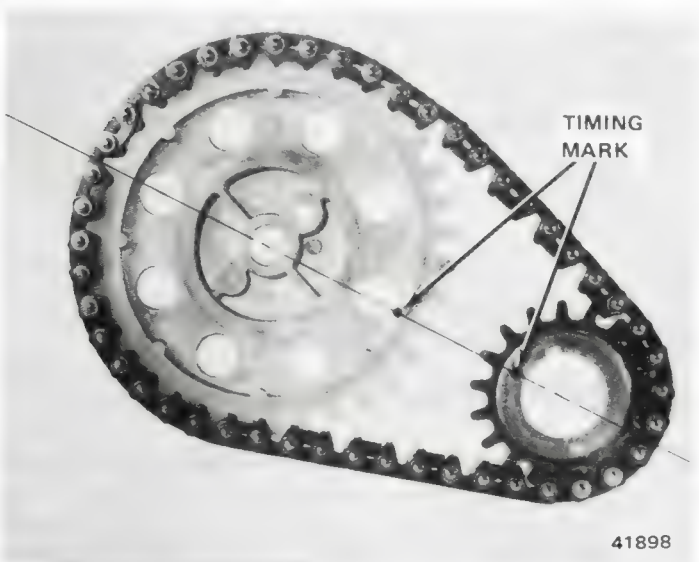

Fig. 1B-88 Timing Sprocket Alignment
- (1) Remove drive belt(s).
- (2) Remove engine fan and hub assembly.
- (3) Remove vibration damper pulley.
- (4) Remove vibration damper.
- (5) Remove timing case cover.
- (6) Remove oil seal from timing case cover.
- (7) Remove camshaft sprocket retaining screw and washer.
- (8) Rotate crankshaft until 0 timing mark on crankshaft sprocket is closest to and on centerline with timing pointer of camshaft sprocket (fig. 1B-88).
- (9) Remove crankshaft sprocket, camshaft sprocket and timing chain as an assembly. Disassemble chain and sprockets.
- (1) Assemble timing chain, crankshaft sprocket and camshaft sprocket with timing marks aligned as shown in figure 1B-88.
- (2) Install assembly to crankshaft and camshaft.
- (3) Install camshaft sprocket retaining screw and washer and tighten to 50 foot-pounds (68 Nm) torque.